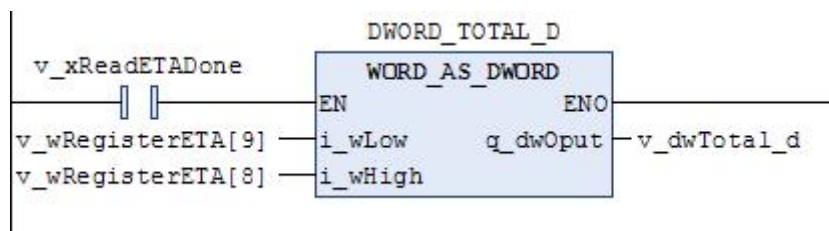

Figure F4-6
③Convert the read data into cumulative traffic, as shown in Figure F4-6,v\_ dwTotal\_ D is the integer part of the positive cumulative value: